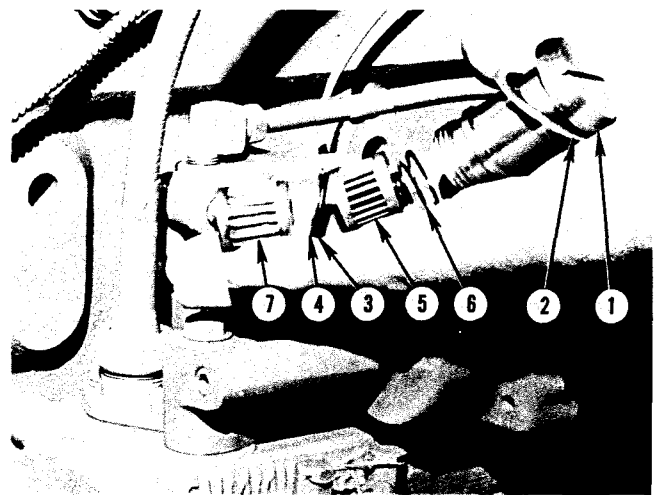

Fig. 2-34, (N11940). Fuel pump screen for MVS governor
1. Remove filter cap (1, Fig. 2-34) and dynaseal (2) from governor housing.
2. Remove "O" ring retainer (3), "O" ring (4), screen (5) and spring (6) from filter cap.
3. Using a screwdriver or wire hook, remove bottom screen and magnet assembly (7) from fuel pump housing. Remove screen retainer.